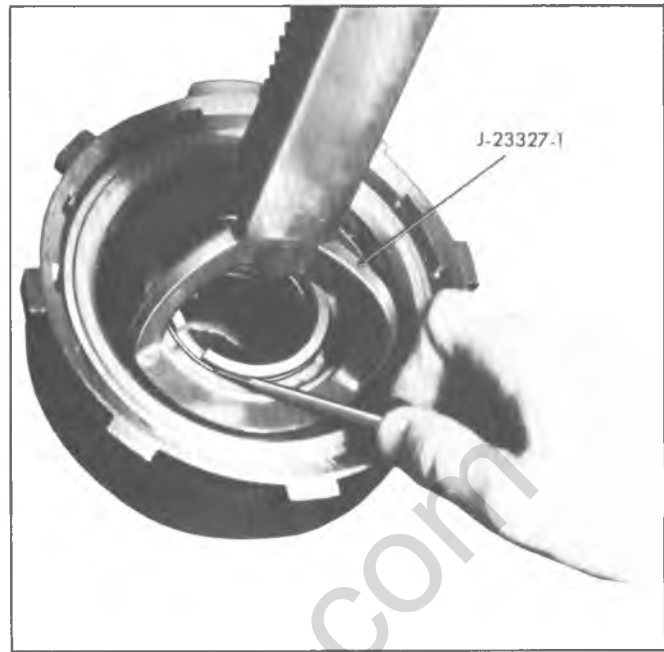

Fig. 72M--Compressing Direct Clutch Spring Seat
7. Using compressor tool J-23327, remove direct clutch piston return spring seat retaining ring, spring seat and seventeen (17) clutch return coil springs (fig. 72M).